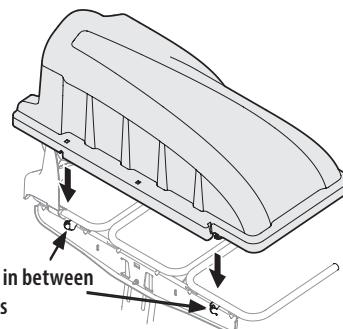

Figure 11
- Install the bagger cover onto the hanger assembly, as seen in Figure 11. The plastic cover goes inside of the two mounting tabs.